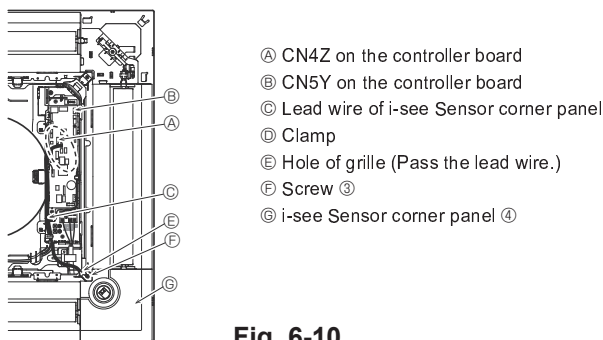

Fig. 6-10
6.4.6. Installation of i-see Sensor corner panel (Fig. 6-10)
- Route the lead wire connector (white, 4 poles and white, 5 poles) of the i-see Sensor corner panel (G) from the side of the electrical box on the main unit and connect to the connector CN4Z and CN5Y on the controller board.